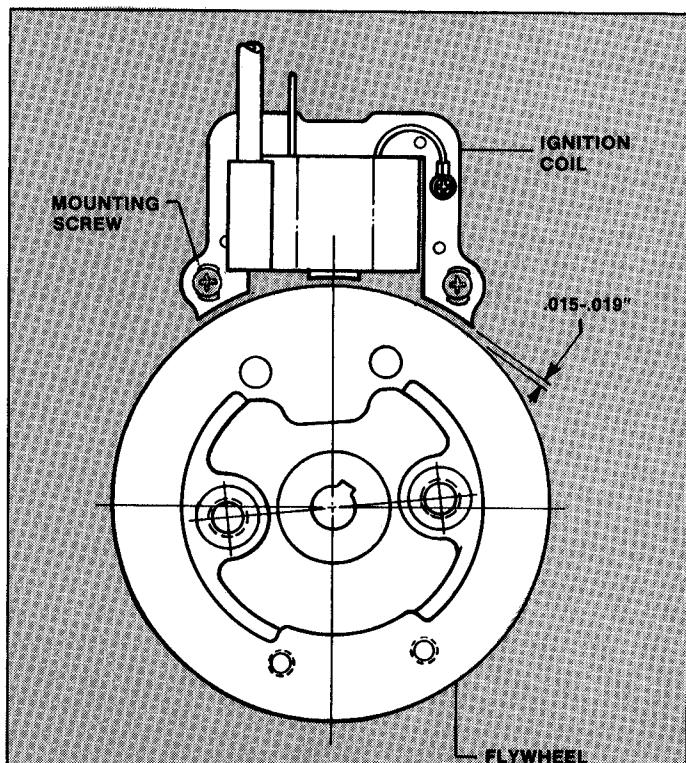

FIGURE 2.31
- Adjust coil up or down until the air gap measures .015" - .019". See Figure 2.31.